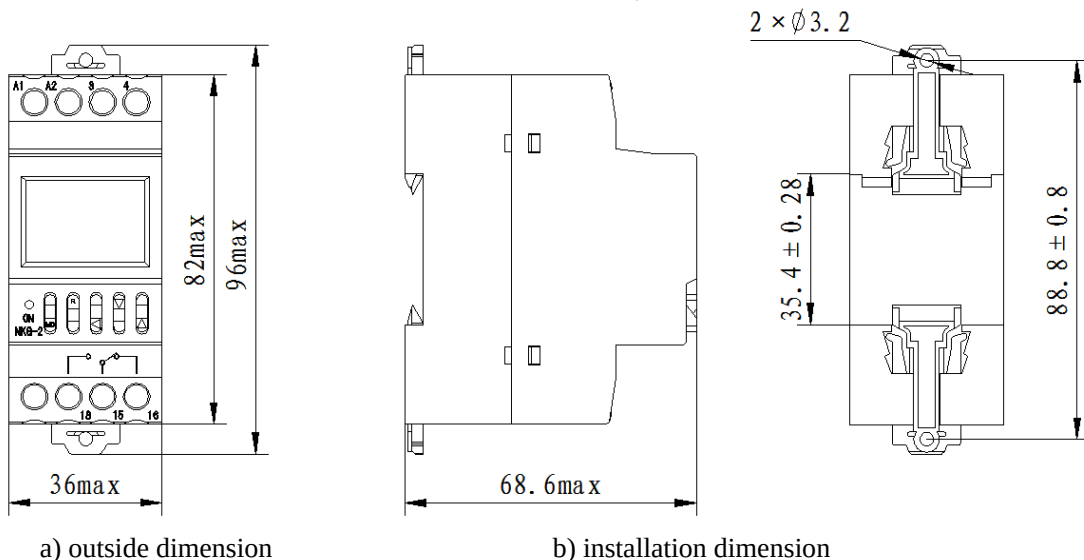

Figure 1 Outside dimensions and installation dimensions
3.1 Outside dimension and installation dimension see Figure 1.